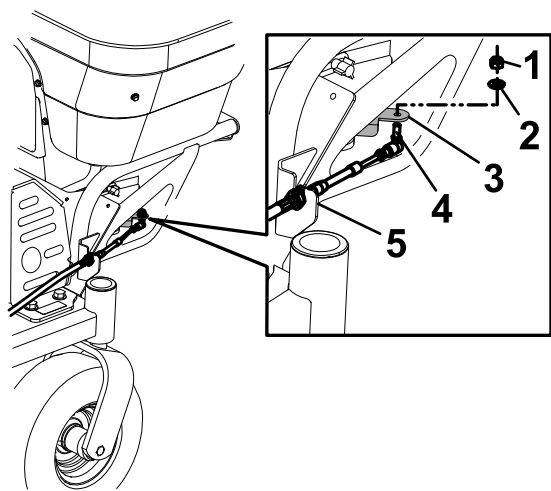

Figure 5
4. Insert the cable end into the hole of the gate arm; secure the cable end with a washer and 1/4-28 inch nyloc nut (see Figure 5).